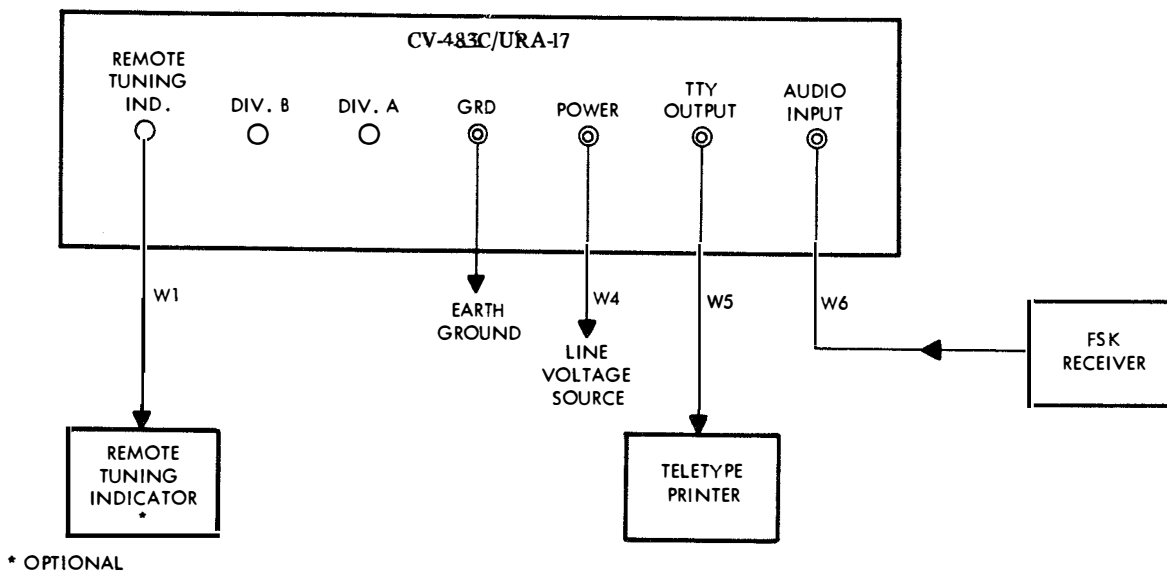

Figure 2-4. Frequency Shift Converter CV-483C/URA-17,
(1) **INTERCONNECTING CABLES FOR SINGLE-RECEIVER OPERATION.** - Table 2-1 lists the required cable and connector information for single-receiver operation of one converter. Figure 2-4 illustrates the interconnection to associated equipment.
\* Use in conjunction with figure 2-4.